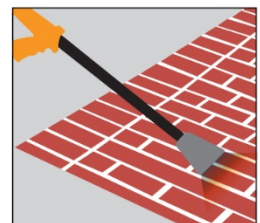

Figure 10: Heat material according to instructions
9. Immediately after positioning the TrafficPatterns[®] begin heating it by moving the flame from a propane fueled torch, such as the Magnum, or Flint 2000EX[™], slowly, but steadily over the material. *See Figure 10.* While heating, it is advisable to concentrate extra heat on the seams between the material segments so that they flow together to minimize their appearance. If using a Magnum torch, or similar, the applicator should utilize the pre-set pilot valve setting (do not squeeze the handle) to get an orange tipped flame to heat the material. Move the Magnum torch in a sweeping motion approximately 2 to 3 ft. wide over the material at a height of no less than 6 ins. Alternatively, the Magnum can be used at high power by squeezing the handle to produce maximum output. At this setting it is essential to move the torch quickly over the material while maintaining a minimum height of 18 to 24 ins. above the material. Always maintain proper minimum height above the material when heating otherwise superficial scorching will result without adequate melting throughout. If material is splattering with introduction of the torch, the flame is too close, or the torch output is too high. Step back and adjust torch height and/or intensity to eliminate the splattering. If using the Flint 2000EX[™] move the torch in a sweeping motion, approximately 2 to 3 ft. wide, over the material at a height of 4 to 8 ins. so that heat is evenly applied to the material and it begins to melt.